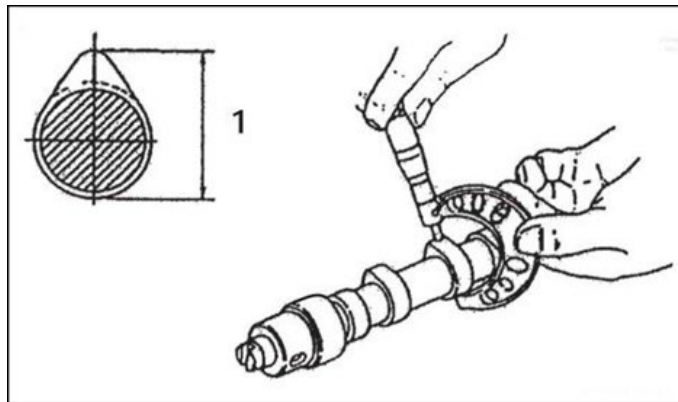

Figure 129.
3. Measure the height of each lobe (Figure 129, item 1). See the Camshaft specifications chart.